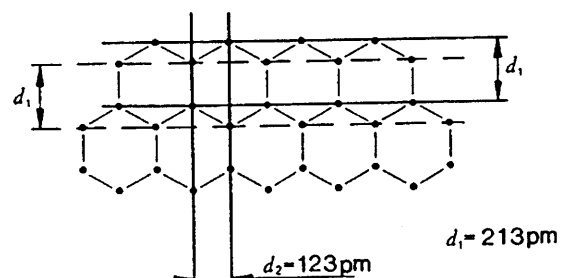

Fig. 4 : Graphite planes for the first two interference rings.
The two inner interference rings occur through reflection from the lattice planes of spacing d_1 and d_2 (Fig. 4), for $n = 1$ in (7).